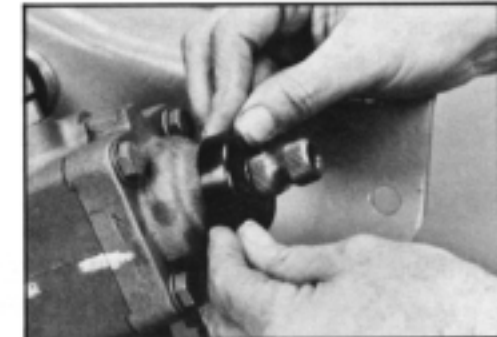

Figure 27
- 2.8 Assemble **new** seal protector (1) onto worm shaft (23) and upper cover (7). SEE FIGURE 27.